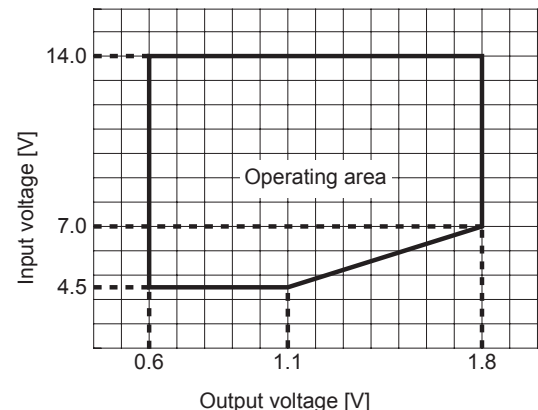

Fig.4.6 Operating area
- The output voltage should be set within the range of Figure 4.6 (only BRFS150 · BRDS150).